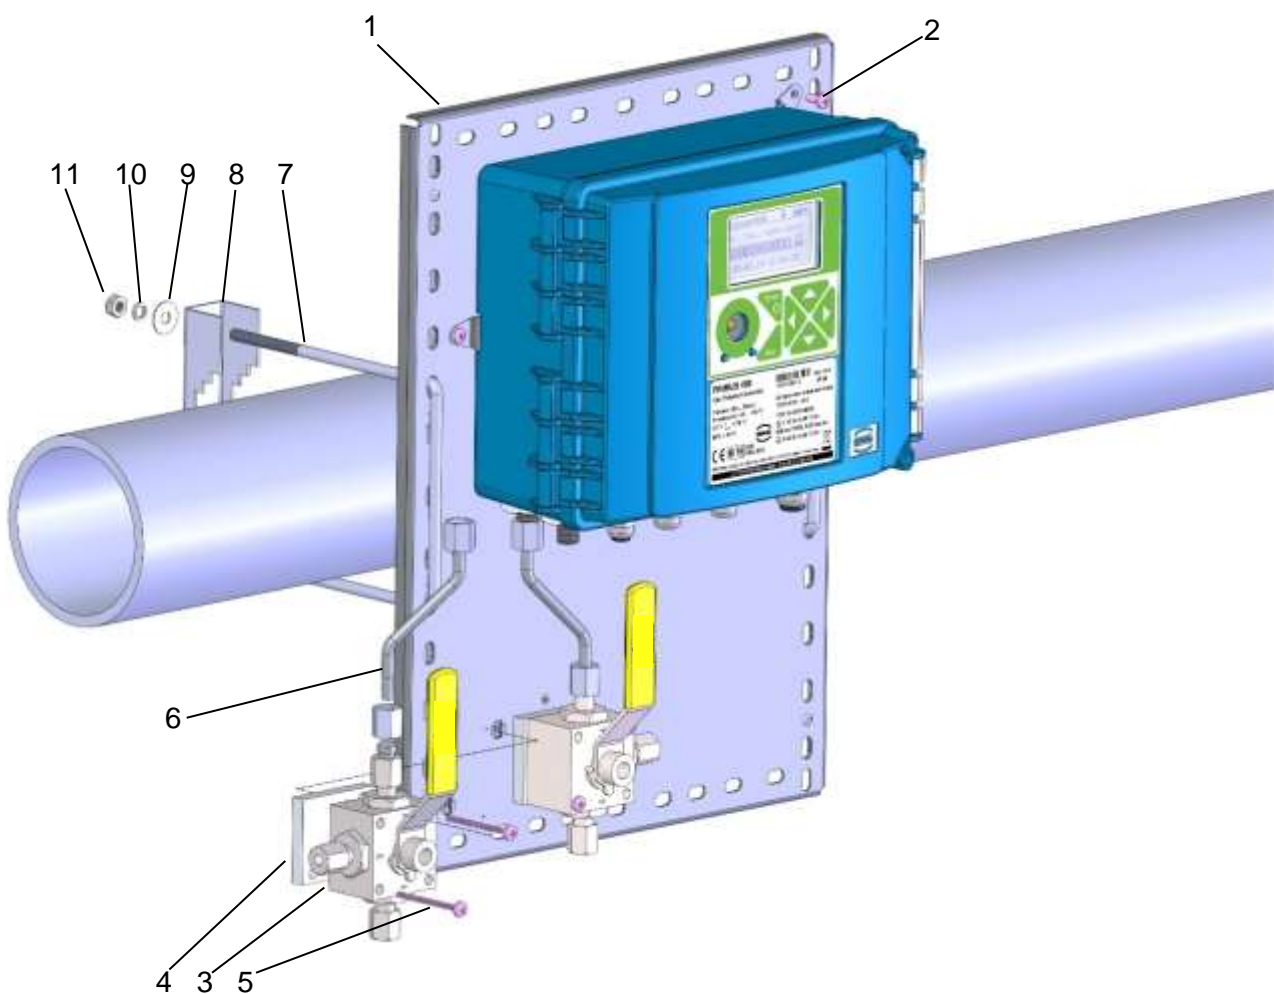

Fig. 6: Mounting the device on a pipe
Clamps (7) (see Fig. 6) with spacings corresponding to the pipe diameters are reeved through the openings in the mounting plate (1) and inserted over the pipe. Fasteners (8) are fixed onto the free ends of the clamps by means of nuts M6 (11) and washers (9) and (10) to secure the mounting plate in the desired position on the pipe of diameter:
The data logger connected via the 3-way valve is shown in Fig. 6. Pressure tube 6x1 **6** with cutting ring pre-pressed on both sides is first thoroughly inserted into the pressure inlet of the device and secured with M12x1,5 ERMETO nut. The other end of the tube is attached to the 3-way valve working outlet fitted on the mounting plate and the nut is gently tightened. The last operation is tightening the nuts on both sides of the connecting pressure pipe. Excessive force must not be applied when tightening the key, otherwise the thread will be damaged.